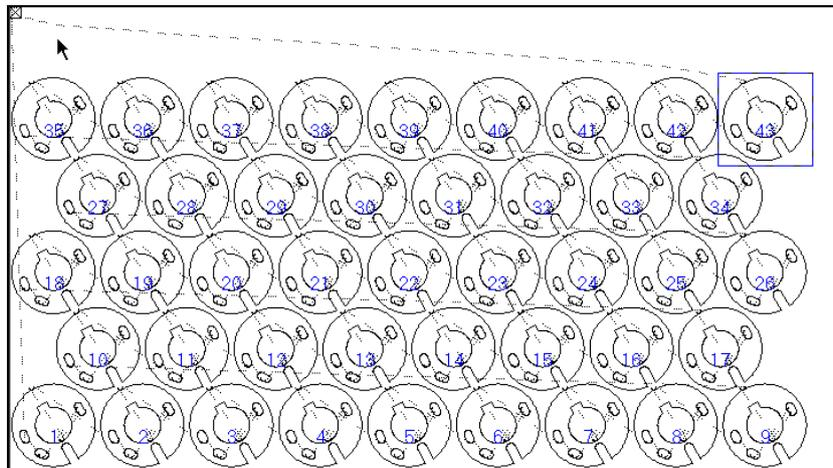

Figure 3-2
- (2) An integer more than 1 is input; click "OK", thus the menu "select matrix form" is popped up. Then click "Automatic Array", the window "automatic array setup" is popped up. And input 88 as the total, select "Triangle" in "Move Up", then click "OK", the array result is got as shown in Figure 3-2.